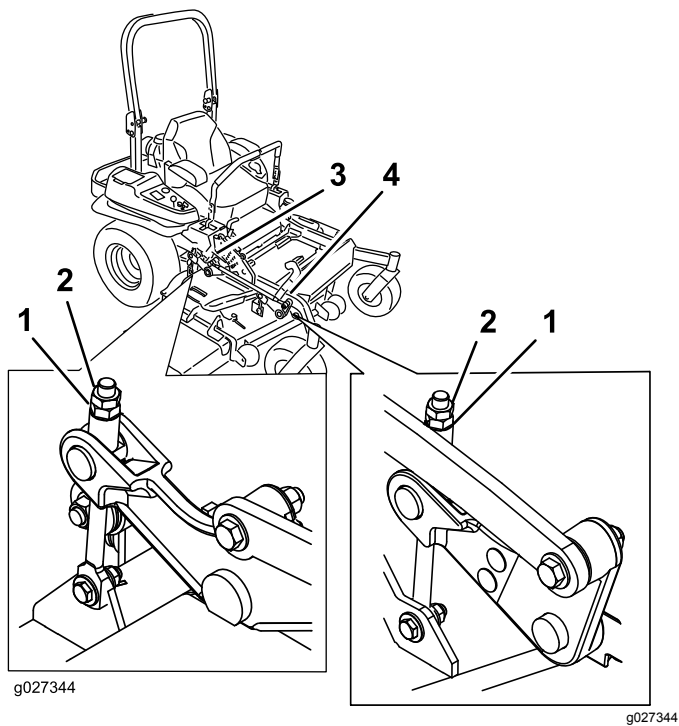

Figure 97
- 10. Fine-tune the adjustment nut on the front deck-lift assembly by turning it (Figure 97).